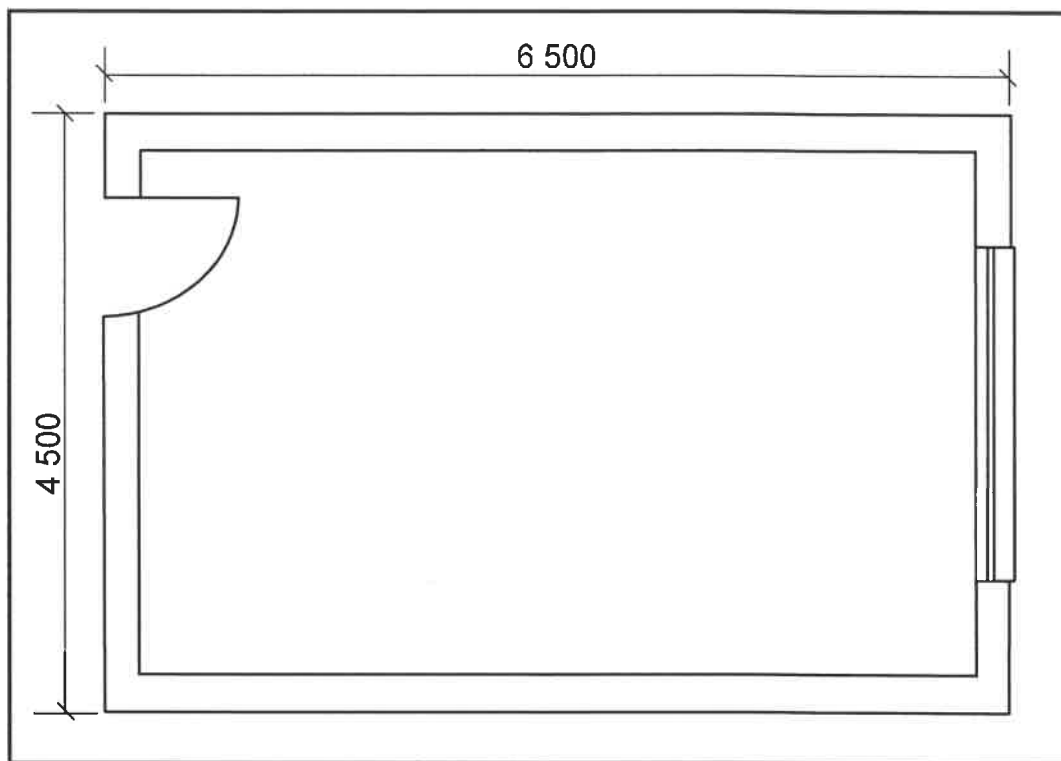

FIGURE 6.6
- 6.6 FIGURE 6.6 below shows the floor plan of a storeroom in a construction workshop. Study the floor plan and answer the questions that follow.